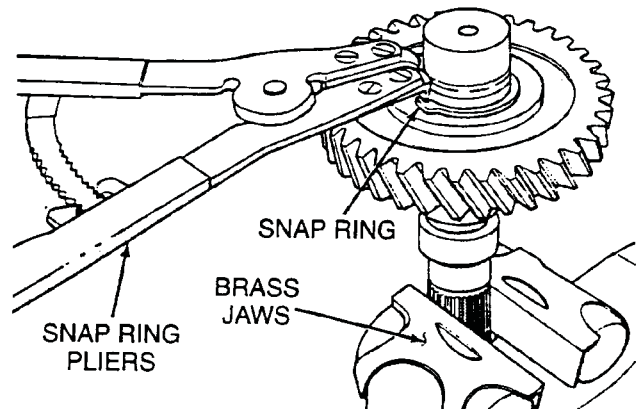

Fig. 2-5 Front Output Shaft Snap Ring
8. Remove snap ring (Fig. 2-5).